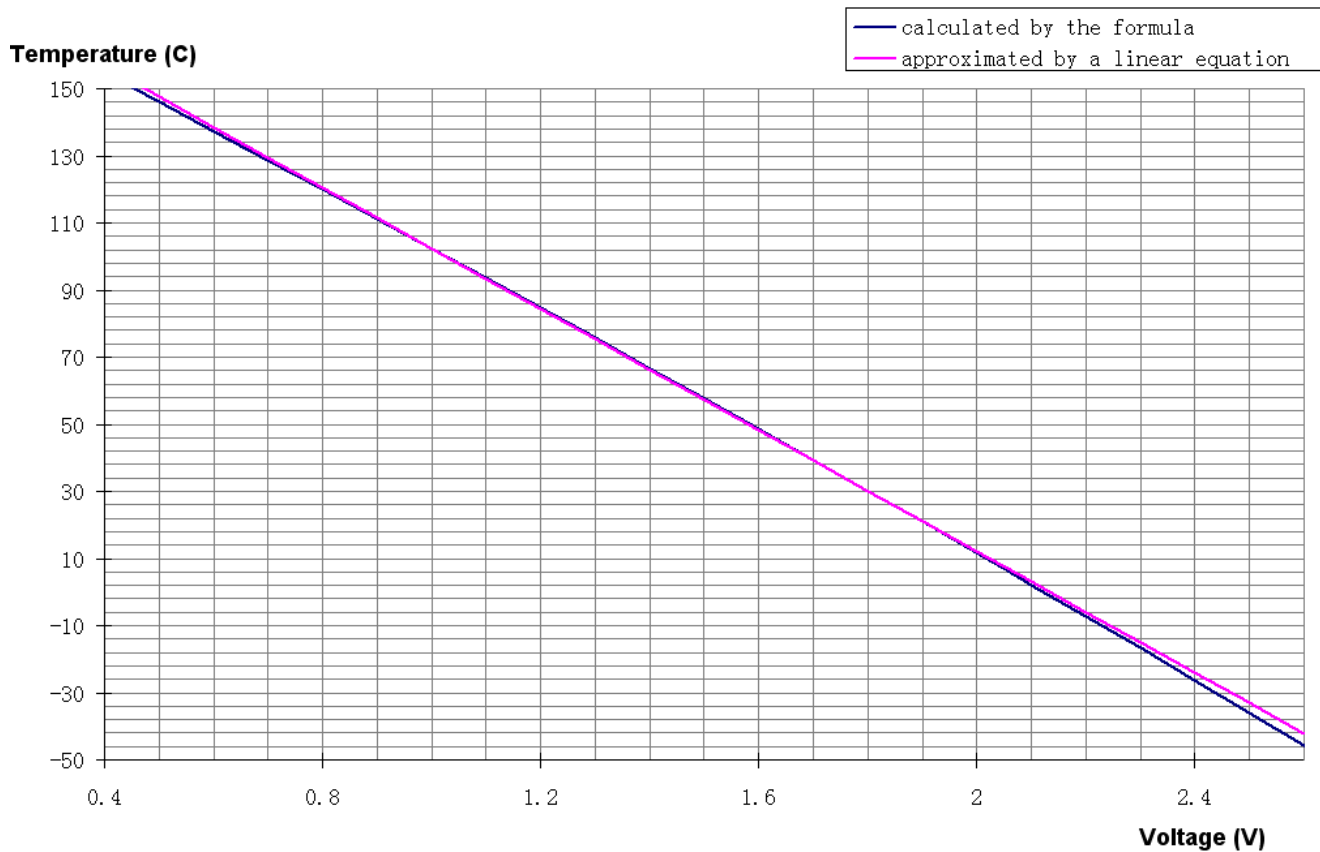

Figure 16. Controller Internal Temperature vs. TMPO Voltage
Within the most commonly used temperature range of between 0 C to 100 C, the maximum error occurs at about 1.5V, at which the temperature error between the calculated data by using the formula (1) and the approximated data obtained by using the linear equation (2) is about 0.4 C, with the linear data being a little lower. The curves of the 2 sets of the data are plotted in Figure 16.